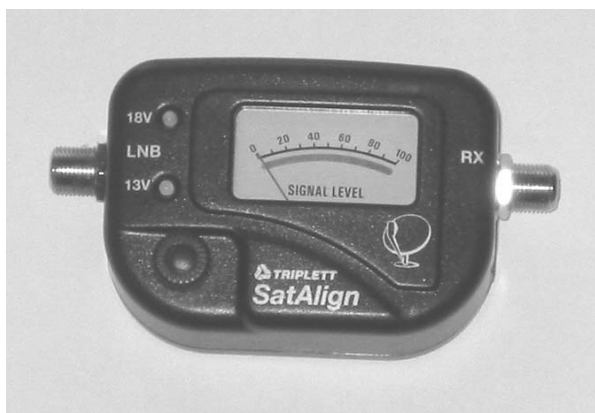

Figure 4-7: AR100 Signal Strength Meter (SSM)
- ☞ Connect the port of the DC inserter going to the cable modem to the RX side of the AR100 signal strength meter (depicted in Figure 4-7) or equivalent signal strength meter .